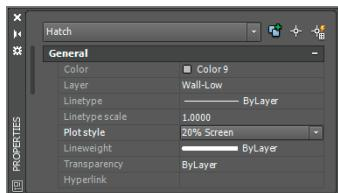

FIGURE 14.12 Changing the plot style assigned to a specific object
6. Open the Plot Style drop-down in the Properties palette, and select Other from the menu. Select 20% Screen in the Select Plot Style dialog box that appears. Click OK, and 20% Screen is listed as the plot style for the Hatch object in the Properties palette (see Figure 14.12). This object will plot with reduced intensity, so the hatch appears lighter.